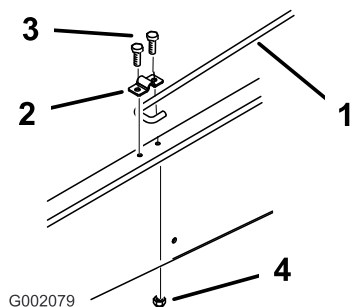

Figure 10
6. Loosen the bolt securing the prop rod clip to the frame until you can slide the J-hook end of the prop rod under the clip (Figure 10).
7. Tighten the bolt and secure the other side of the clip with a new bolt (5/16 x 3/4 inch) and flange nut (5/16 inch) (Figure 10).